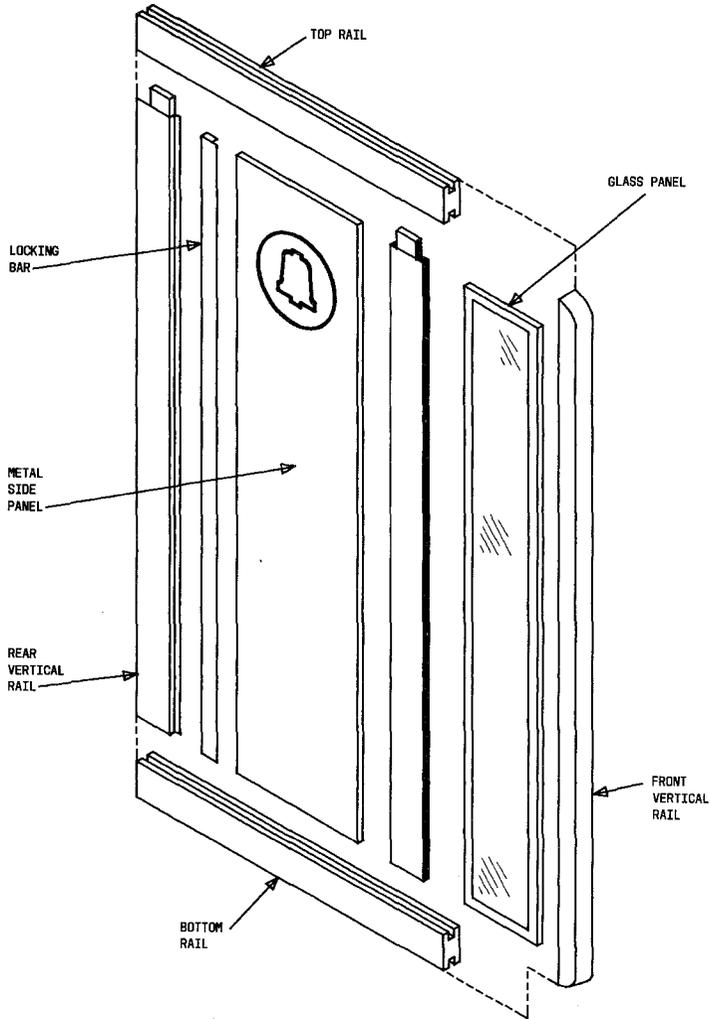

Fig. 46—Replacement of Panels
- (1) Using a KS-19192, List 1 wrench, loosen two security screws and remove front bezel assembly.
- (2) Slide diffuser out and remove lamps.
- (3) Install using reverse procedure.
**GLASS SIDE PANEL REPLACEMENT****4.07 List 32, 33, or 34 Housing (Fig. 46):**
- (1) Using KS-19192, List 1 wrench, remove two security screws from top rail and two from bottom rail that secure front vertical rail.
- (2) Pull front vertical rail off.
- (3) Pull glass panel forward and out.
- (4) Install using reverse procedure.
- (1) Repeat 4.07 (1) through (4).
**4.09 List 32, 33, or 34 Housing (Fig. 46):**